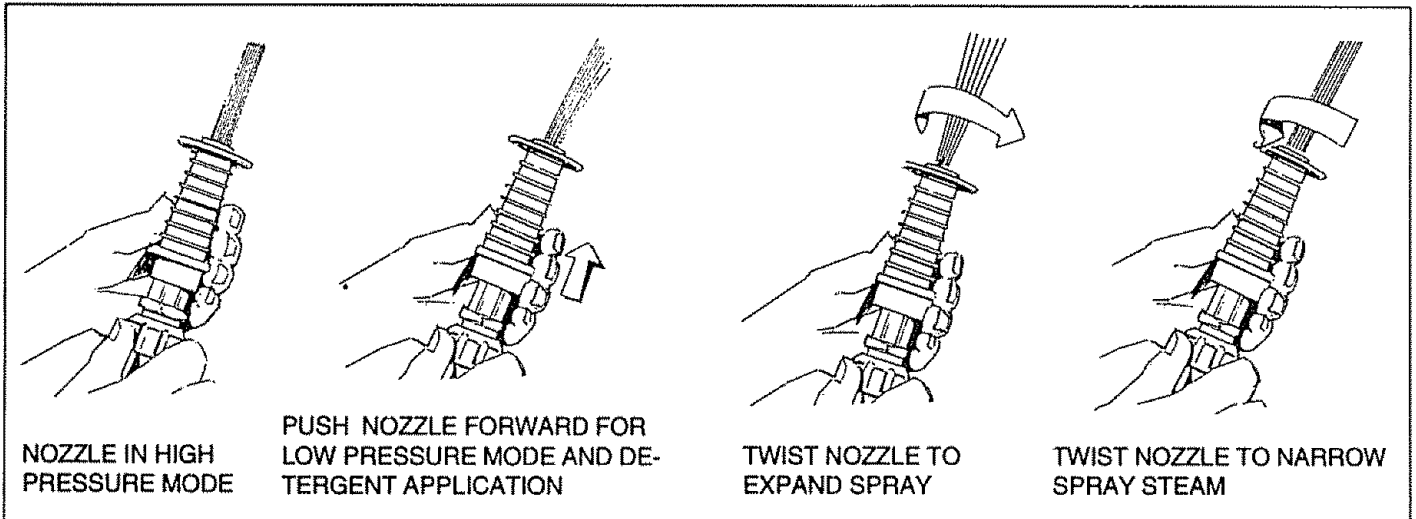

FIG. 12
Your high pressure washer comes equipped with an adjustable nozzle (Fig. 12). Attach nozzle as shown in Fig. 10 and **HAND TIGHTEN** the plastic knob. Figure 12 shows the optional turbo nozzle.
- Push the nozzle attachment forward when you wish to adjust the spray to low pressure mode (Fig. 12). Push the nozzle backward to achieve high pressure.
- Set nozzle to low pressure mode. Detergent is not siphoned in the high pressure mode (Fig. 12).